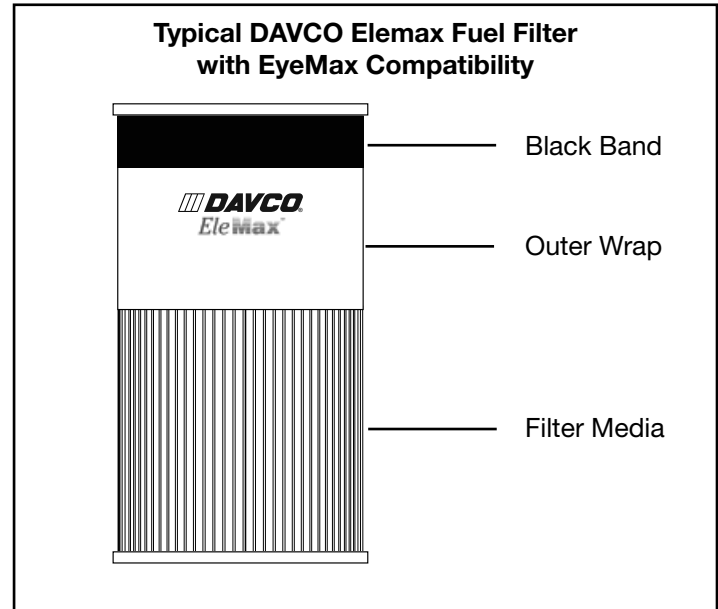

Figure 1
- Do not expose EyeMax to direct or indirect sunlight while the ignition is on. The infrared (IR) spectrum of the sun will overpower the EyeMax IR signal, resulting in a false reading.
- Use only the filters designed for EyeMax operation that include the large black band at the top of the filter wrap. The black band reduces IR interference and is essential for reliable operation of the EyeMax. (See Figure 1.)